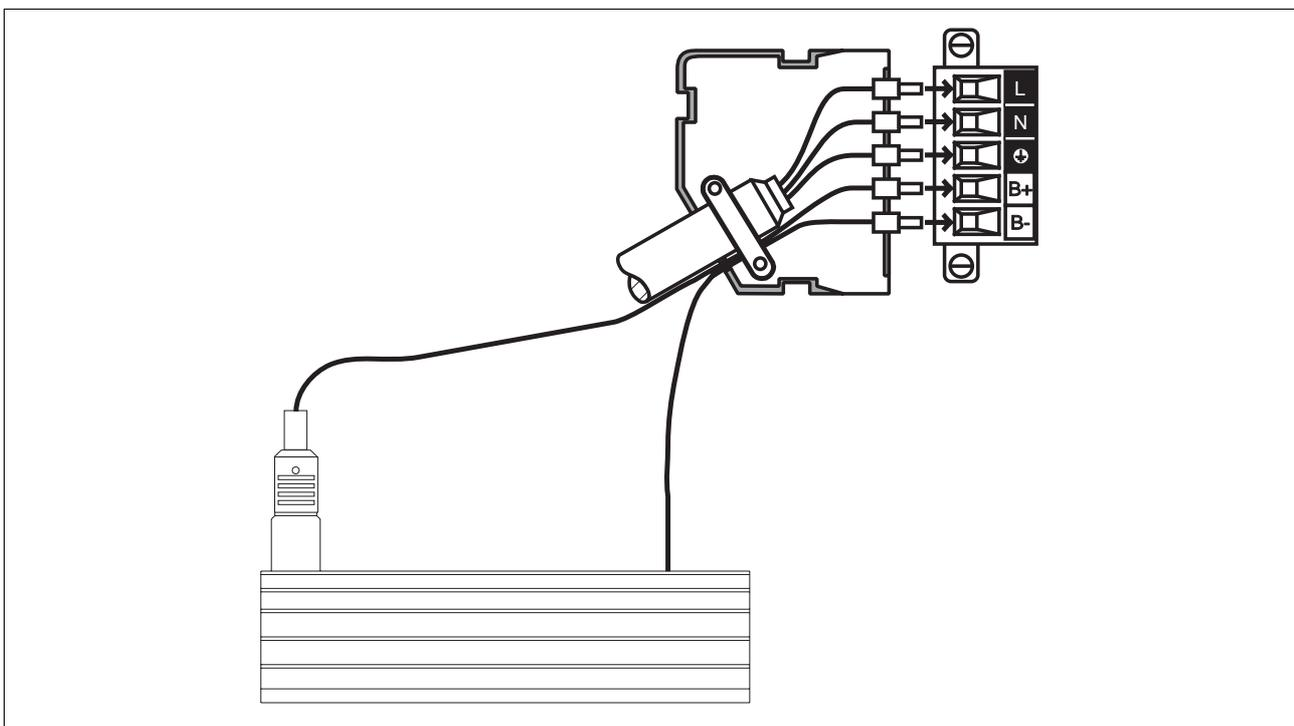

Figure 6-2 Ballast Resistor Connection
1. Loosen Screws and remove mains connector (see figure 6-2).